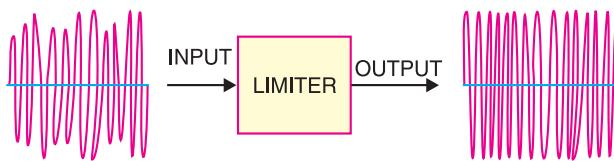

Fig. 16.22
3. **Limiter Stage.** The output from IF stage is fed to the limiter. This circuit is an IF amplifier tuned to 10.7 MHz but its main function is to remove AM interference from the FM signal. Fig. 16.22 shows how the limiter removes AM interference from the FM signal.
Fig. 16.22 shows how the limiter removes AM interference from the FM signal. The input is an FM signal, but it has different amplitude levels because of AM interference has been added. However, the limiter circuit keeps the output level constant for different input levels.